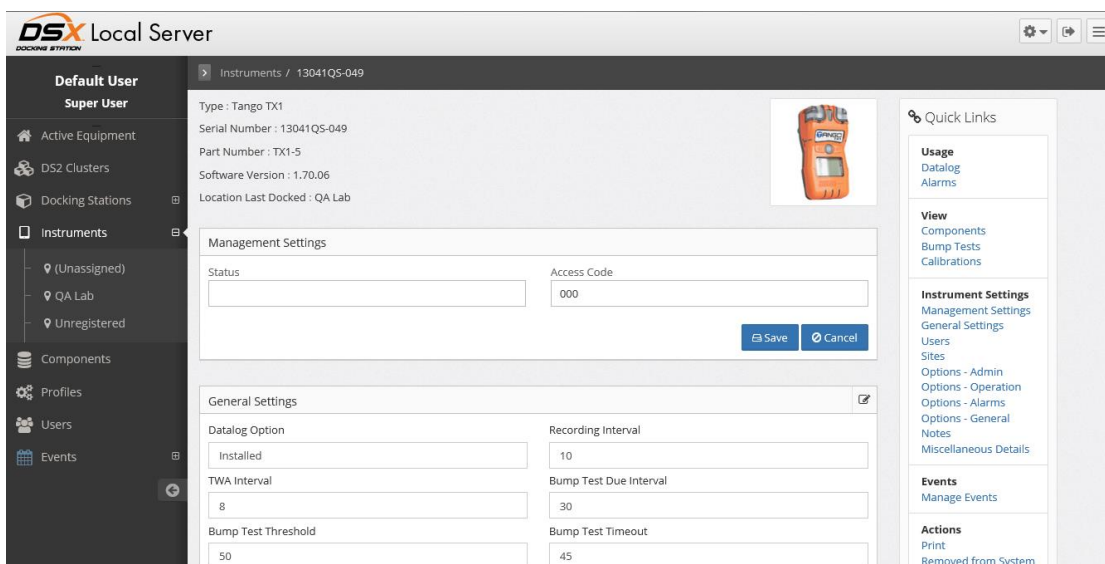

Figure 5-3. Instrument Page
4.	The Edit Instrument section appears on the Instrument page (refer to Figure 5-3). You will see a number of sections, including Management Settings and General Settings. As you scroll down the page you will see additional sections for which information can be edited. NOTE: You will also see links to instrument information and settings in the Quick Links section on the right side of the page. Each option is explained in the sections that follow.